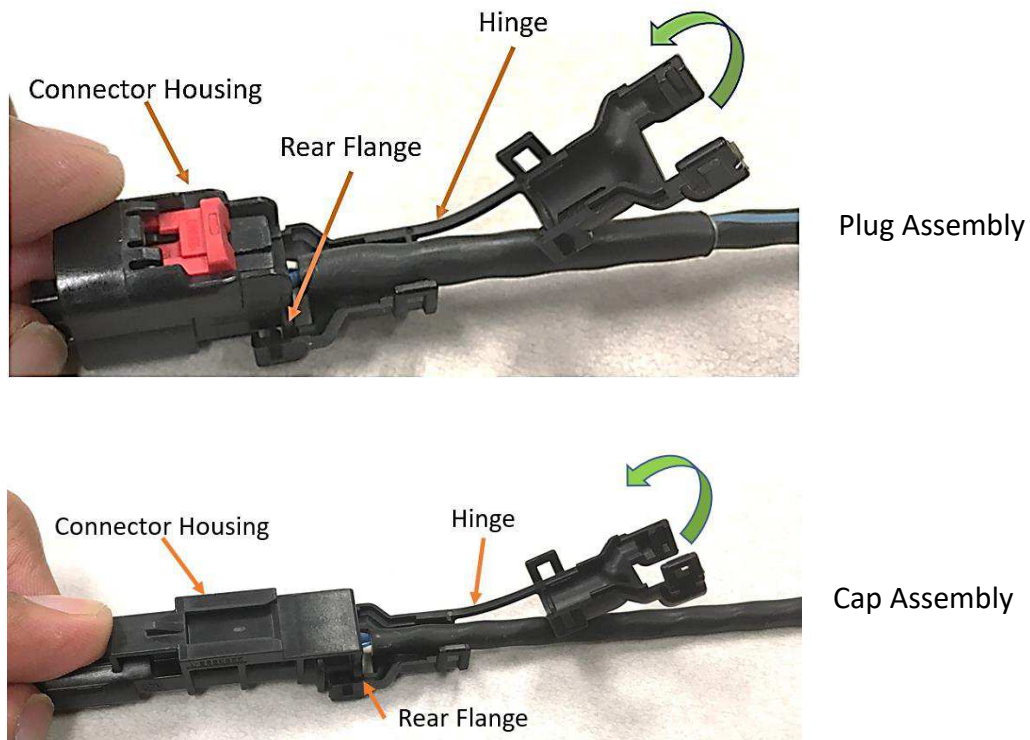

Figure 19
- i. Place either pocket of the Wire Dress Cover onto the rear flange of the connector housing. Form and center the wire bundle in the wire exit. See Figure 19.